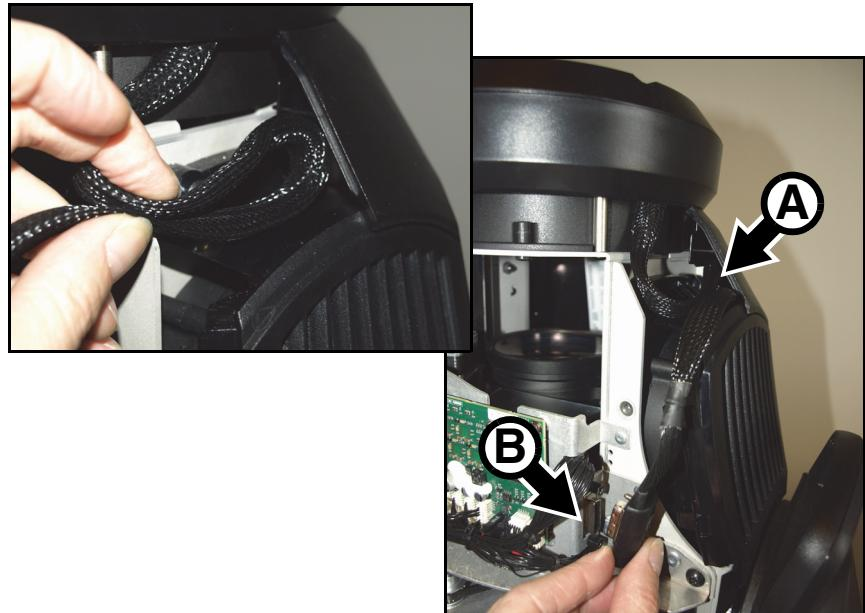

Figure 6
9. See Figure 6. Gather up a loop in the Quadray Module wireset and push it into the space **A** between the module and the head air filter. Push the wireset's multiconnector onto the corresponding socket **B** in the head.